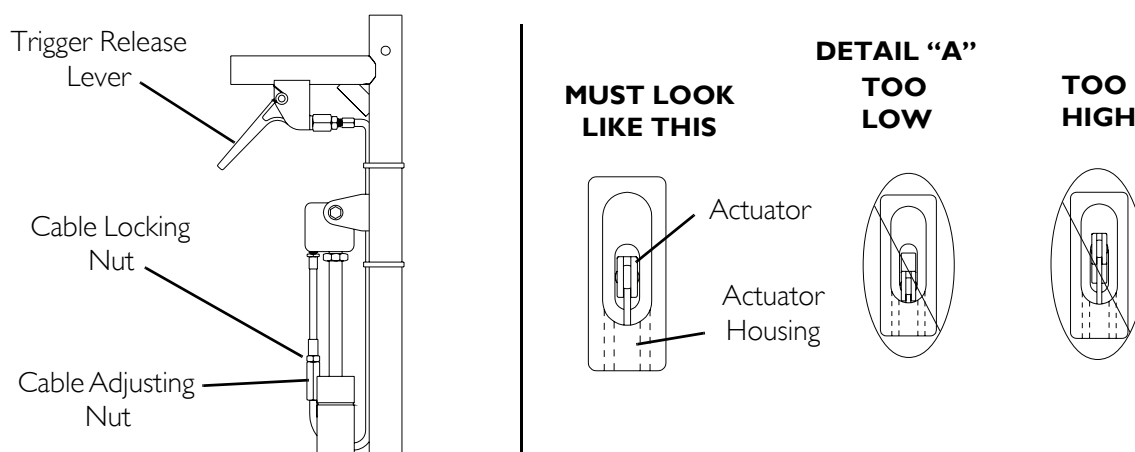

FIGURE 11.4 Adjusting the Gas Cylinders
NOTE: For this procedure, refer to FIGURE 11.4 on page 120.
- Clockwise - Turning the cable adjusting nut clockwise will tighten the recliner cable. **DO NOT** overtighten the cable adjusting nut. Turn the cable adjusting nut clockwise until actuator looks like Detail "A" in FIGURE 11.4.